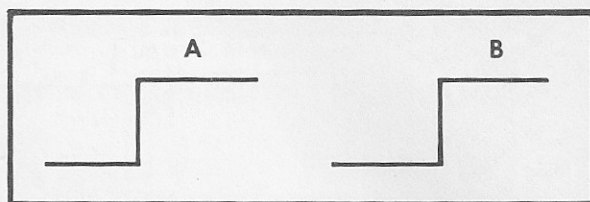

Figure 7
- () Adjust the SYNC LEVEL control until one cycle of a square wave appears. (See Part A of Figure 7.) Then adjust the control until the waveform is symmetrical (where the positive portion of the waveform is equal to the negative portion of the waveform as in Part B of Figure 7.)